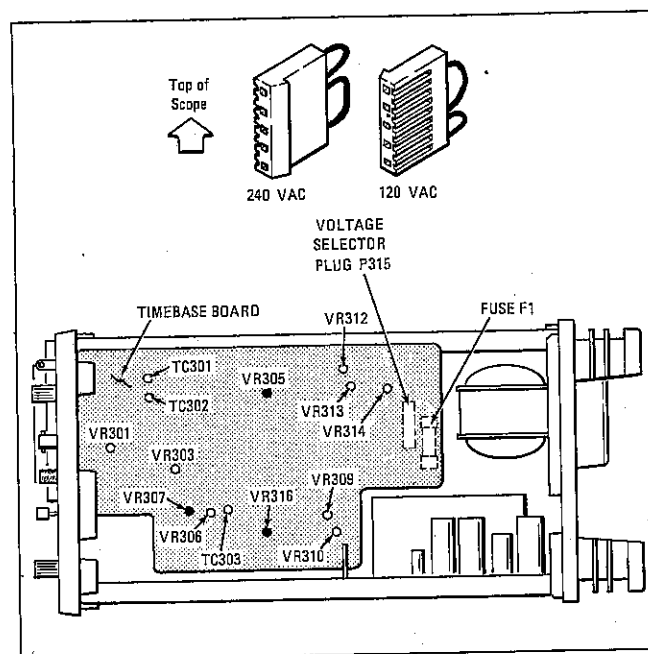

Fig. 31. Fuse, voltage selector, and adjustment locations, right side of scope.
Fuse F1 is in series with the primary of the power transformer. If this fuse blows, the pilot light will go out and the oscilloscope will not operate. The fuse should not normally open unless a problem has developed in the unit. Try to determine and correct the cause of the blown fuse, then replace only with a fast blow fuse of the proper current rating; 0.8 amp for 120 VAC operation or 0.5 amp for 240 VAC operation. The fuse is located on the component side of the time base board as shown in Fig. 31. For access, remove the top section of the case.
2. Remove voltage selector plug P315, which is located on the time base board as shown in Fig. 31.
TABLE I. Functions of adjustments on Time Base board. (See Fig. 31)
Internal adjustments outlined in the calibration procedure can be located by reference to Fig. 31 and 32.